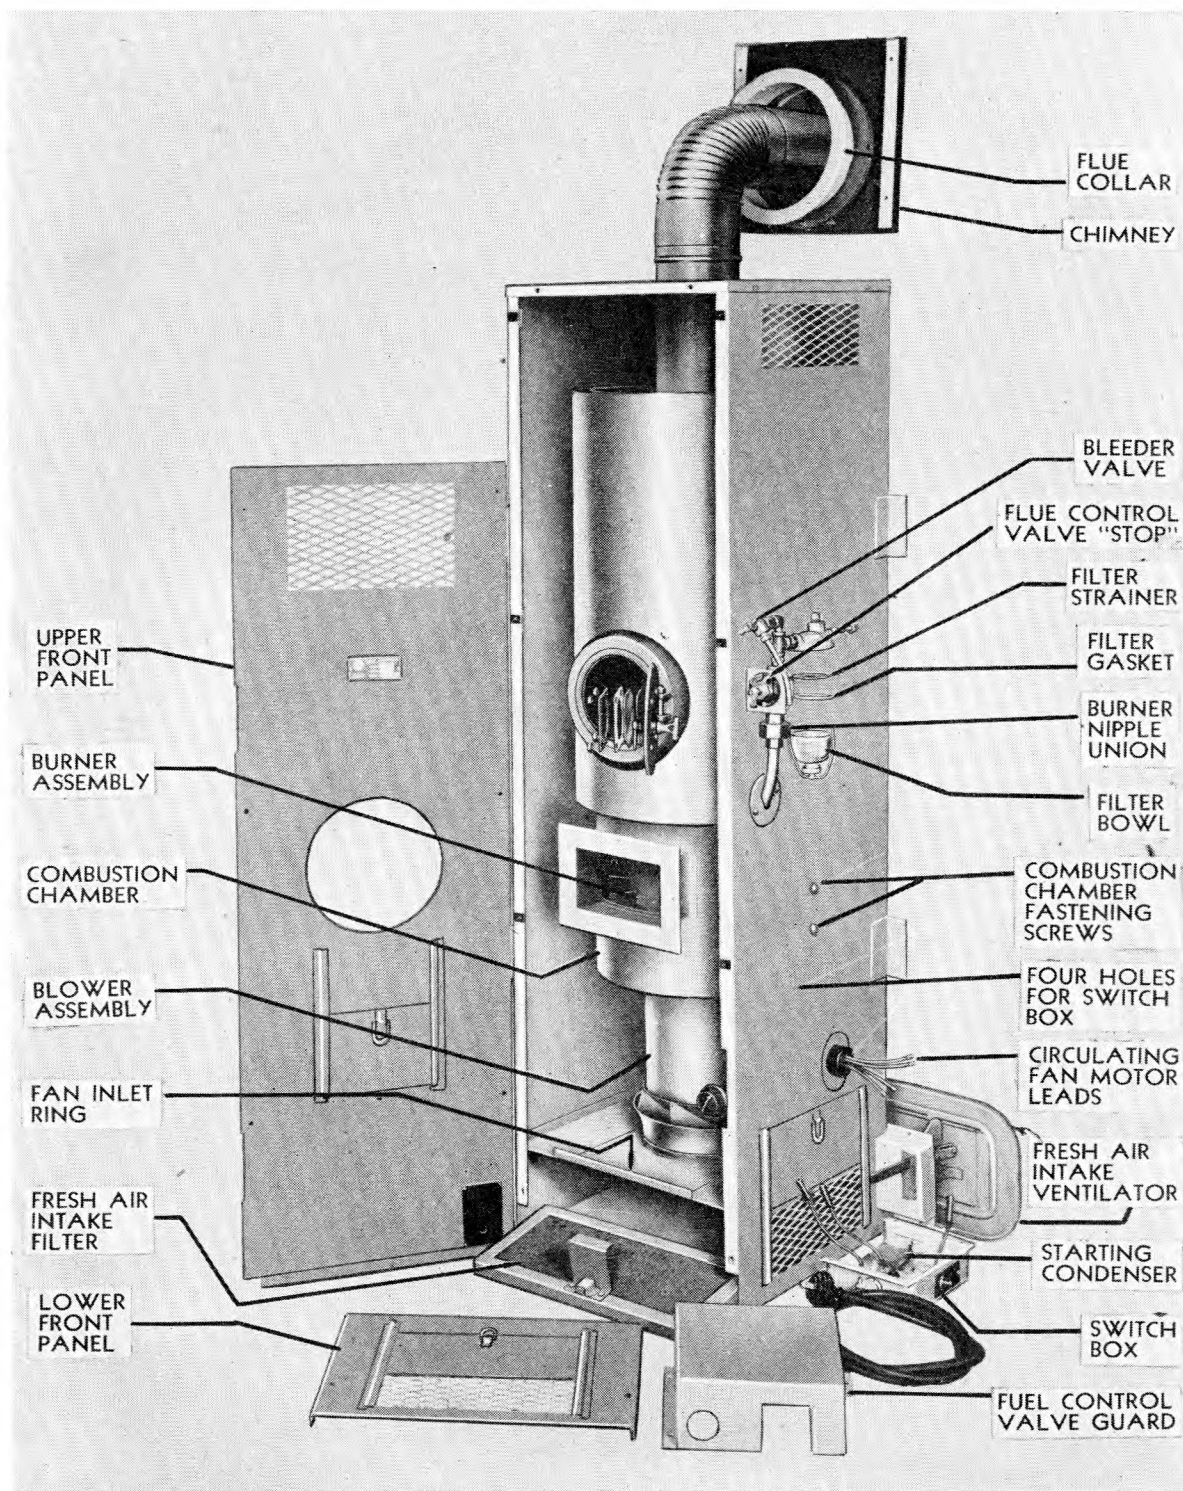

Fig. 24—Petrol heater with parts identified.
- (b) Remove the fuel control valve guard by removing the four rd. hd. machine screws which hold it to the right-hand side of the heater, (see Fig. 24).